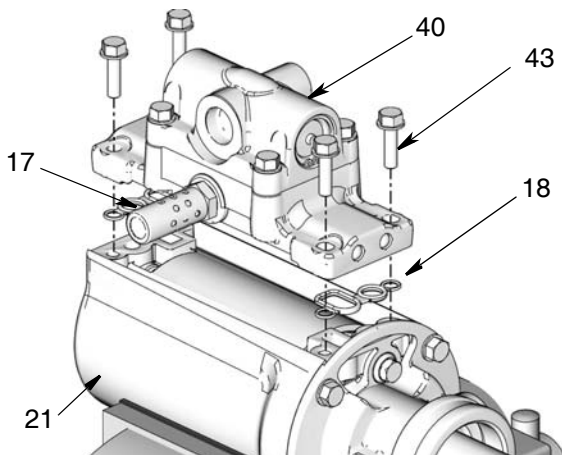

Fig. 17
- Secure pump assembly in a vise as shown in Fig. 17.
- Be sure seals (18) are lightly greased and installed on air valve (40). Install air valve on air cylinder (21).
- Install screws (43). Torque to 60-70 in. lbs (6.8 - 7.9 N.m).
- Torque screws (4) installed in Step 6 to 60-70 in. lbs (6.8 - 7.9 N.m).
Muffler (17) Installation (Fig. 17)
- Depending on your installation, the air valve (40) can be mounted with the muffler (17) on either side of the air valve.